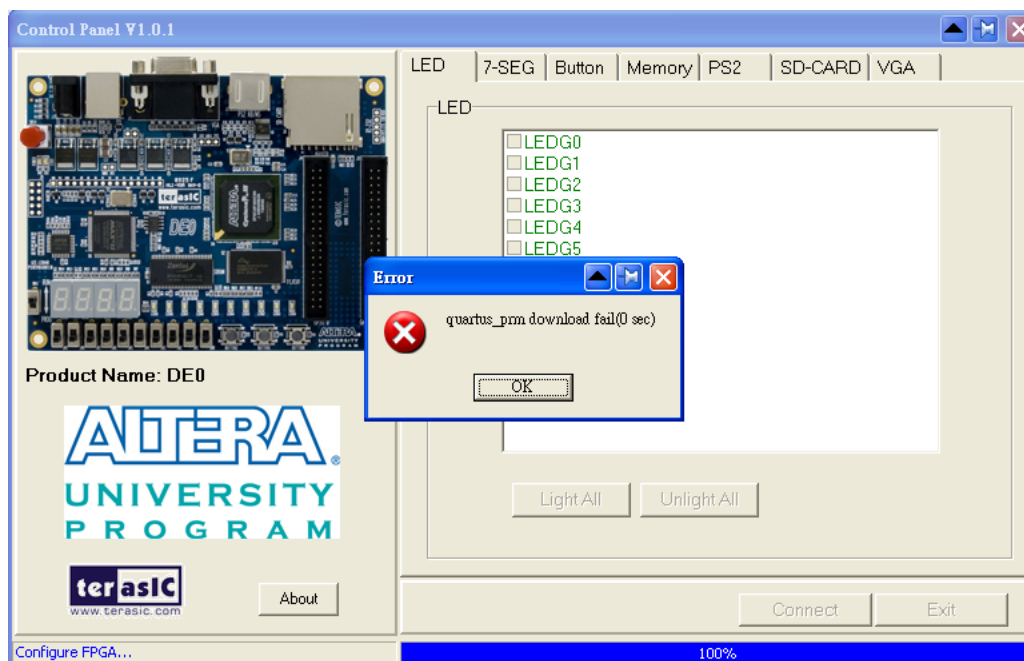

Figure 3-2. The error message of the DE0 Control Panel.
**When the control panel window appears, it will automatically download the bit stream file .sof into the FPGA. If any error message shows up as shown in Figure 3-2, please check steps 1 to 3 has been performed. Then, click *Download Code* button to program FPGA again. Note, the Control Panel will occupy the USB port until you close that port; you cannot use Quartus II to download a configuration file into the FPGA until you close the USB port.**